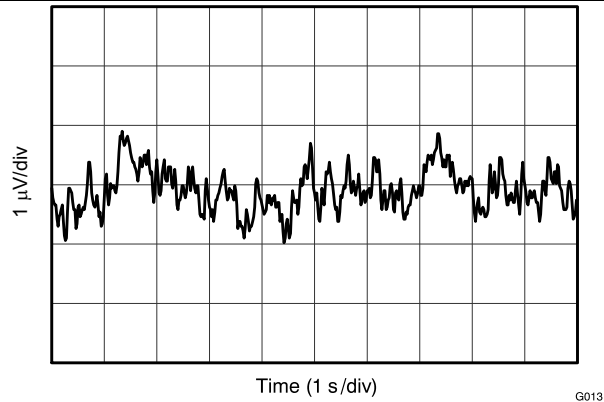

Figure 7. 0.1-Hz to 10-Hz Noise
0.1-Hz to 10-Hz Noise	Figure 7